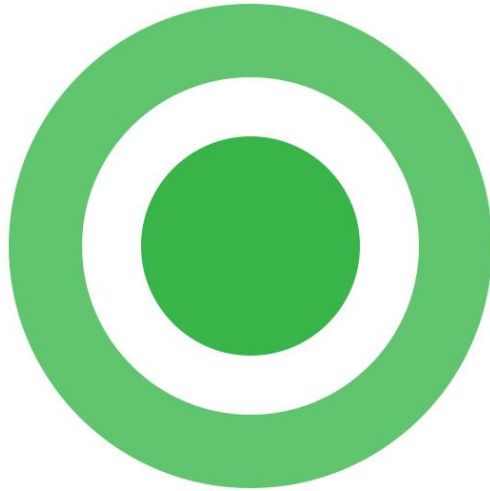

Figure 3-2: HeNe Bullseye Pattern
3. The bullseye image is shown in **Figure 3-2** below. The outer ring of the bullseye should be concentric to the main beam.